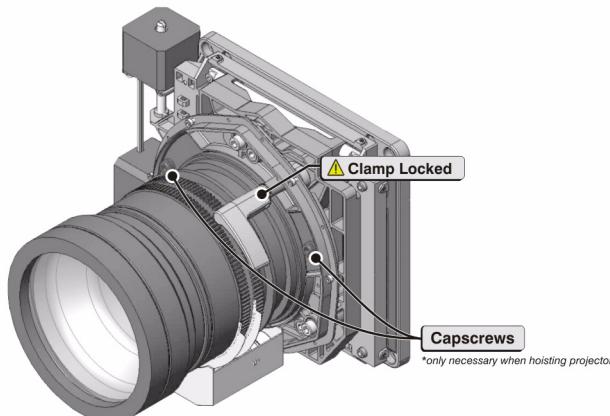

FIGURE 3-6 LOCK LENS IN PLACE
2. If present, remove the 2 hex screws from the lens mount (**Figure 3-6**).
5. Position the lens clamp DOWN to lock the lens assembly in place (**Figure 3-6**). Use of the hex screws is required if the projector is ceiling mounted.